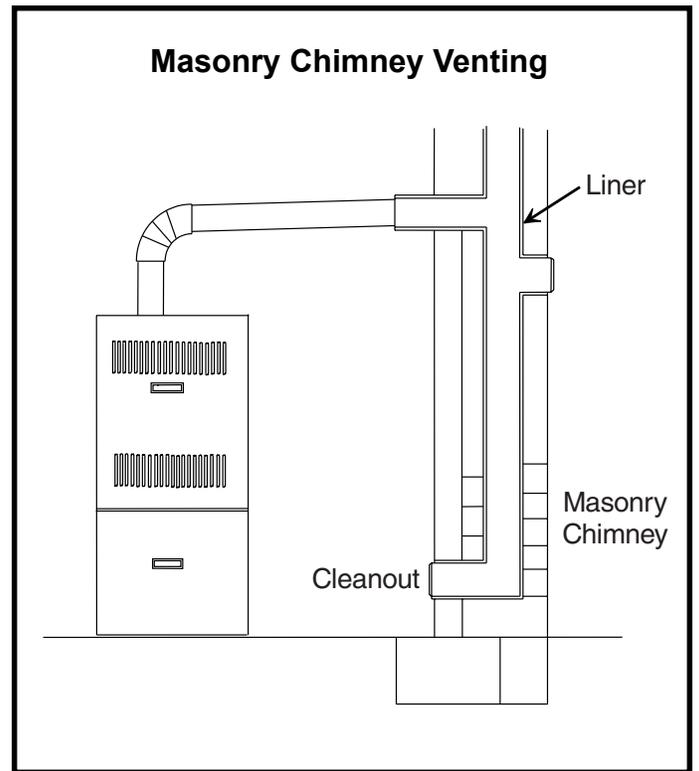

Figure 9
7. The furnace shall be connected to a factory-built chimney or vent complying with a recognized standard, or a masonry or concrete chimney lined with a lining material acceptable to the authority with jurisdiction. **Venting into an unlined chimney or a single wall metal vent is prohibited in all cases. A lined chimney may be used if a draft hood equipped appliance, such as a water heater, is connected to the same flue (see Figures 9 and 10).**
condensation from entering the combustion blower. Provision shall be made to drain off the condensate (see Figures 9 and 10).